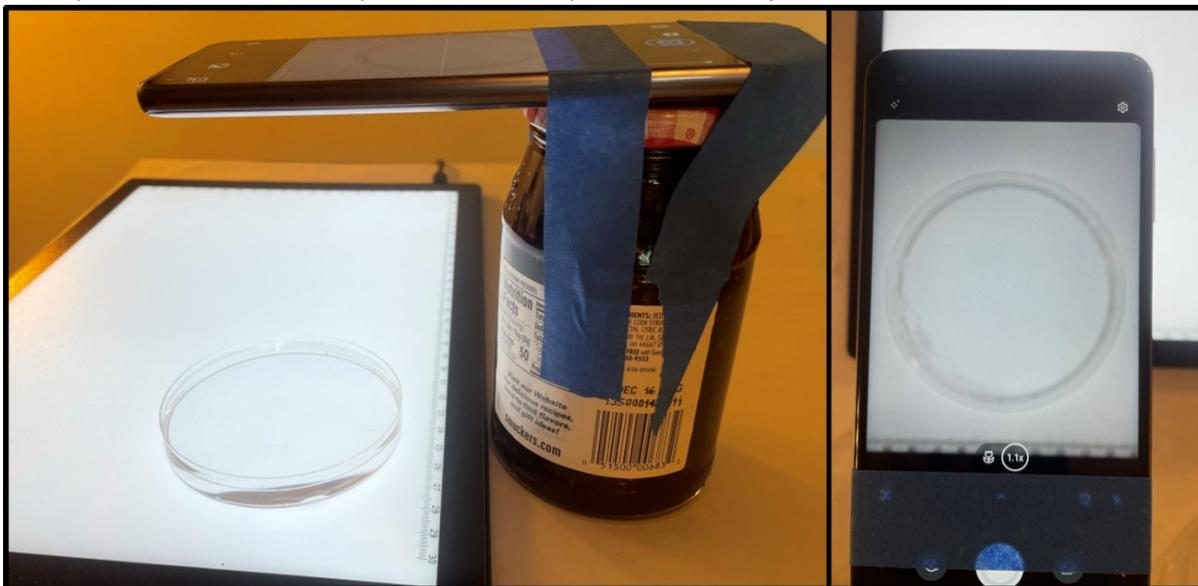

Figure 1. The phone positioned over the Petri dish (left) with no outside objects in the view (right)
8. Start the camera application and position the smartphone over the Petri dish at a height that ensures the dish that will contain the aggregates takes up most of the camera screen and the camera will not capture any objects outside of the petri dish (Fig. 1). Adjust the position of the phone and zoom of the phone camera to prevent other objects in the frame.